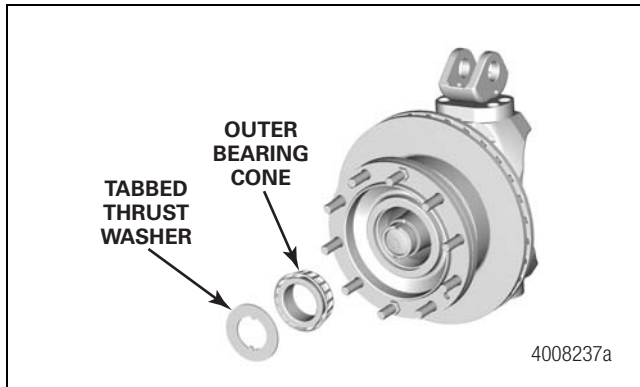

Figure 14.3
9. Install the tabbed thrust washer onto the spindle. Figure 14.3.